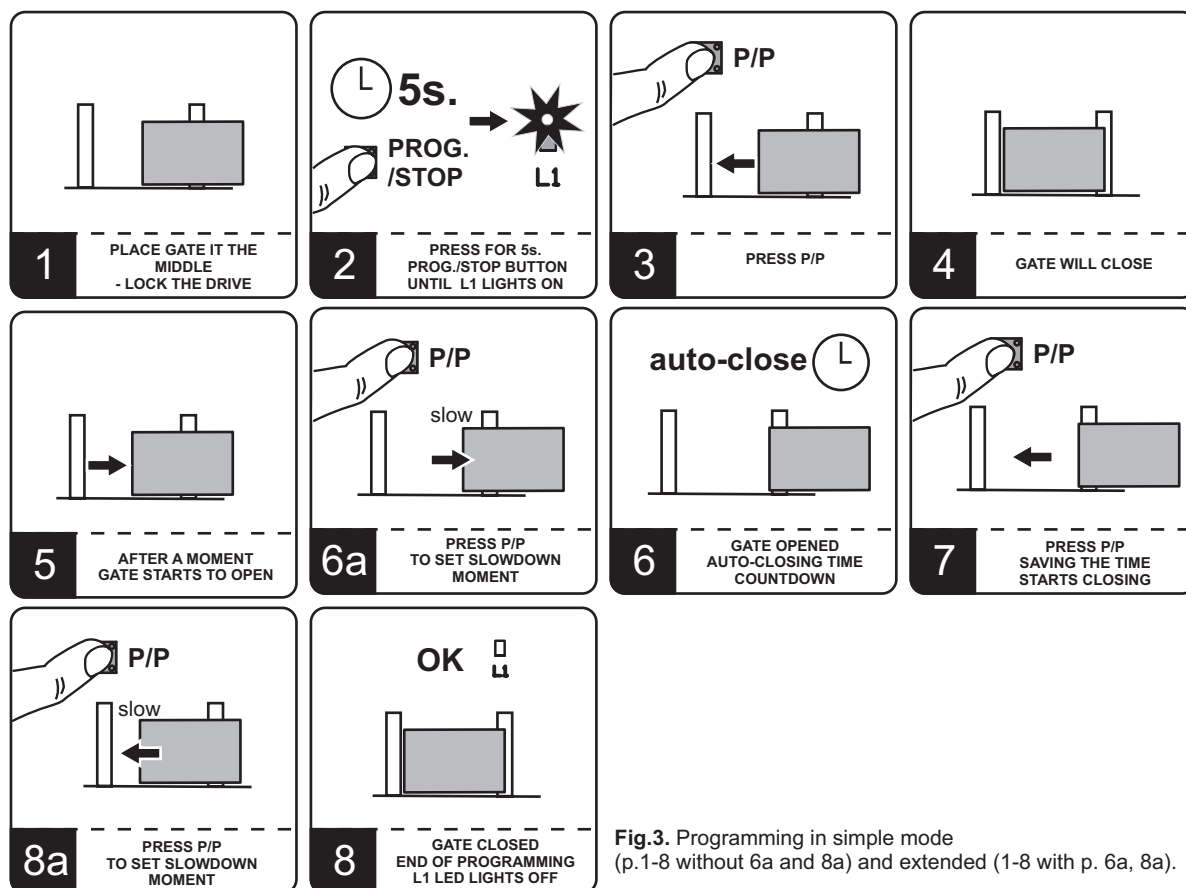

Fig.3. Programming in simple mode (p.1-8 without 6a and 8a) and extended (1-8 with p. 6a, 8a).
It is simple and fast form of setting times of closing, opening, auto-closing. Slowing times before total opening and closing are set automatically. Programme according to following steps (fig. 3):
- ▶ manually place the gate in the middle of the way (1, fig.3).
- ▶ press PROG/STOP button and hold it pressed for about 3 seconds, until L1 diode does not light constantly (2, fig.3). Driver is in the programming mode.
- ▶ Press P/P button. The gate will start moving in direction toward closing (3, fig.3). If the gate moves on the direction towards opening it is necessary to change the direction of engine operation and limit switch operation, see pt. 4.3.2-4.3.3.
- ▶ the gate reaches closed position (4, fig.3) and it starts opening automatically (5, fig.3), stopping at the outermost opening position (6, fig.3). The driver starts remembering the auto-closing time (see tab.1).
- ▶ when the demanded pause time is complete, press P/P button. The motor will start closing (7, fig.3), finishing at the outermost closing position. L1 diode turns off, the end of programming procedure (8, fig.3)
This procedure requires a little bit more involvement in the process the learning from the installer, than in the case of the simple mode. The installer is able to set additionally the times of slowing down at opening and closing according to personal needs. In order to set different zones of slowing down, act in the following way (fig. 3):
- ▶ press PROG/STOP button and hold it pressed for about 5 seconds, until L1 diode does not light constantly (2, fig.3). **Driver is in the programming mode.**
- ▶ the gate reaches closed position (4, fig.3) and it starts opening automatically (5, fig.3).
- ▶ while opening, before the full opening of the gate press P/P button in the position of required slowing down (6a, fig.3). The gate stops for a moment and then continues and finishes the opening.
- ▶ after stopping at the outermost opening position **the driver starts remembering the auto-closing time** (6, fig.3).
- ▶ when the demanded pause time is complete, press P/P button. The motor will start closing (7, fig.3).
- ▶ while closing the gate press P/P button in the position of required slowing down (8a, fig.3).
- ▶ the gate finishes the closing move at the outermost closing position. L1 diode turns off, the end of programming procedure (8, fig.3).